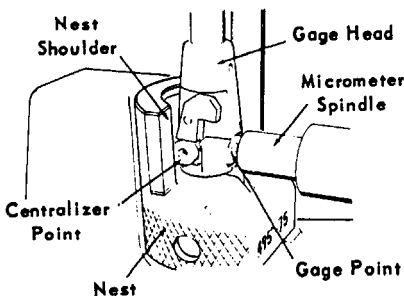

FIGURE 10
9. Be sure the Centralizer Points firmly contact the shoulders of the Nest (see Figure 10).